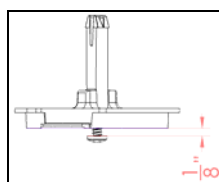
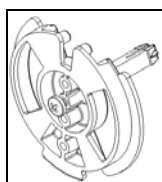

Figure 4
Figure 5
5. Use provided fastener **4212505** and install into the back of hub as shown (See Fig. 4) & (See Fig. 5)
An 1/8" gap between hub and 4212505 Back of screw head (See Fig. 4)